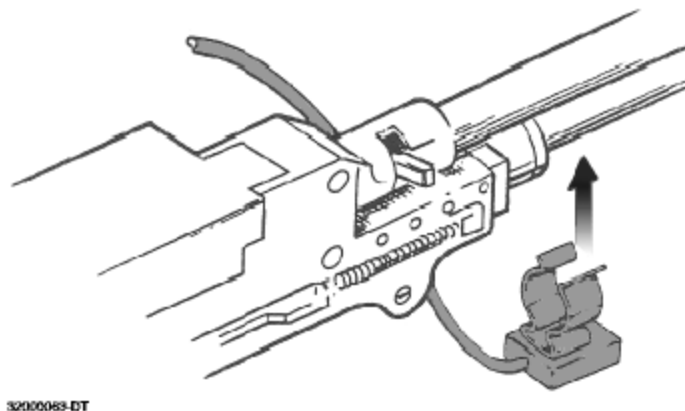

Figure 2-23. M2/M3 Coax Microphone.
- e. Clip the microphone to the gas tube beneath the machine gun barrel. Ensure that the Coax Microphone Cable is not in contact with the barrel. (See Figure 2-23.)